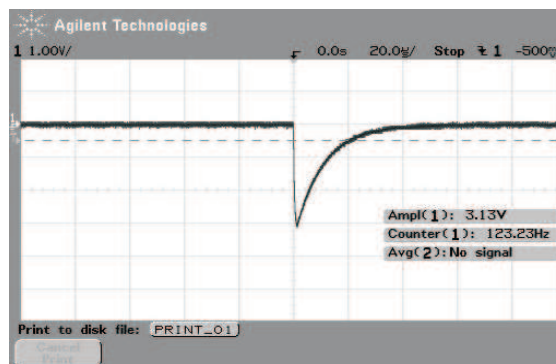

Figure 6: Waveform from PQC biased 3V above the breakdown voltage and placed in the dark.
- Set the oscilloscope to 1 V per division on the vertical axis and to 20  $\mu\text{s}$  per division on the horizontal axis. Set the trigger level of the oscilloscope to  $\approx -500$  mV (with the baseline of the waveform set at 0 V). Set up the oscilloscope so that it displays the frequency of the pulses that cross the trigger. Record the frequency, this is the dark count rate of the PQC detector. Fig. 6 shows what should typically be observed. Notice that the amplitude of the pulse is  $\approx 3$  V corresponding to the excess bias and the dark count is  $\approx 120$  cps (or 120 Hz).
- In the example shown here the dead time is  $\approx 40\mu\text{s}$  (see Fig. 6). This implies that the PQC with the resistance set to  $100\text{ k}\Omega$  can measure count rates up to  $1/40\mu\text{s} \approx 25,000\text{ cps}$ .